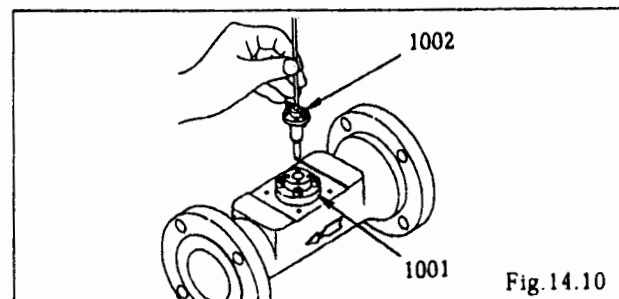

Fig. 14.10
- ⑫ Carefully extract the sensor (1002) from the oscillating spool (1001) (Fig. 14.10).